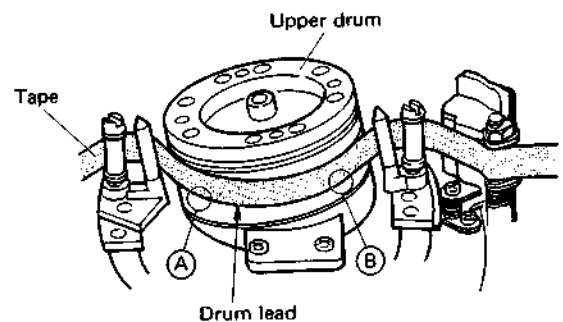

Fig. 4-28 Drum lead check-1
Confirm absence of damage to the tape at points (A) and (B) as shown in Fig. 4-28 and absence of contact noise between head tips and tape edge.